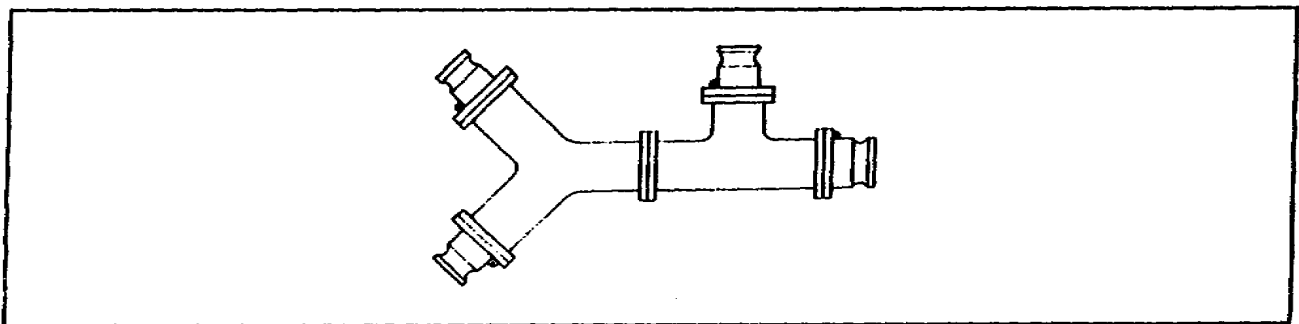

Figure 1-17. Assembly
Situation: You are a petroleum section supervisor checking the components of an FSSP which you will use under normal operating conditions. Use this situation and Figure 1-17 to answer questions 1 through 5.
4. The assembly shown in Figure 1-17 is which of the following types?
5. How many 4-inch adapter flanges to 3-inch male couplings does the assembly shown in Figure 1-17 contain?
Figure 1-4 shows nine types of fitting assemblies used in the FSSP. The assembly shown in Figure 1-17 is a flanged wye and tee assembly (Assembly A). (Page 1-8, Figure 1-4)